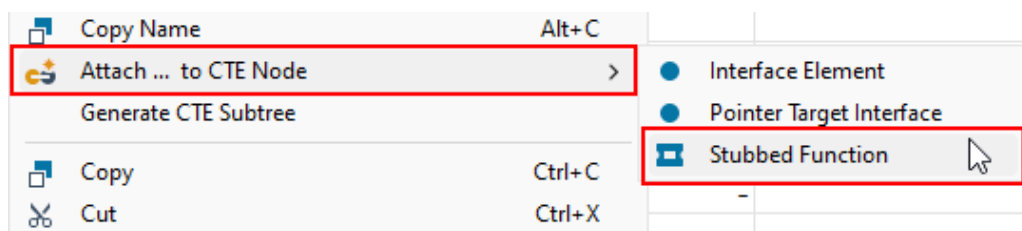

Figure 6.199: Attaching a stubbed function to a CTE node
- Then click “Stubbed Function” (see the following figure 6.199).